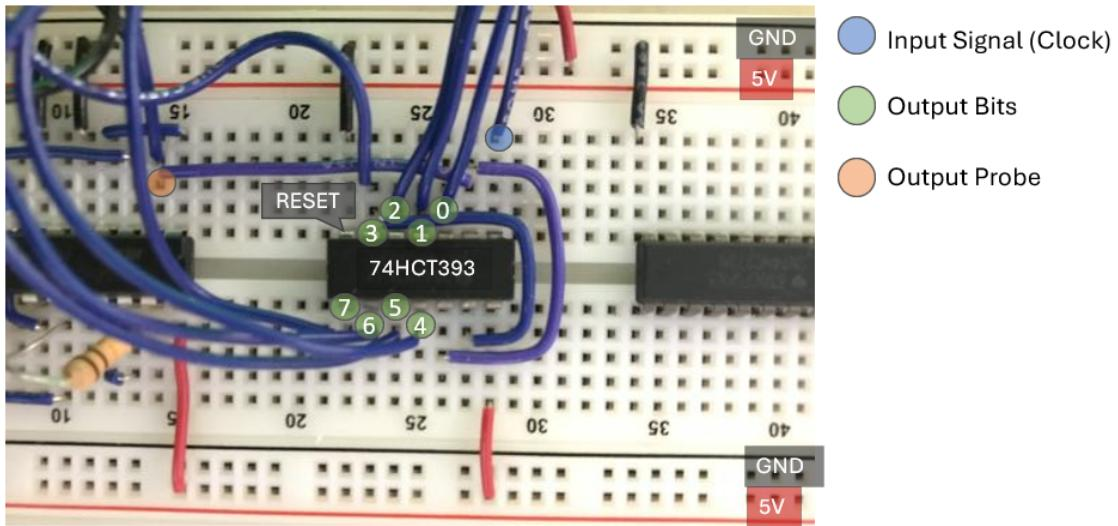

Figure 16: Setup of counter IC wired to test operation on breadboard
- I connected these pins to the counter IC's bits like in Figure 16